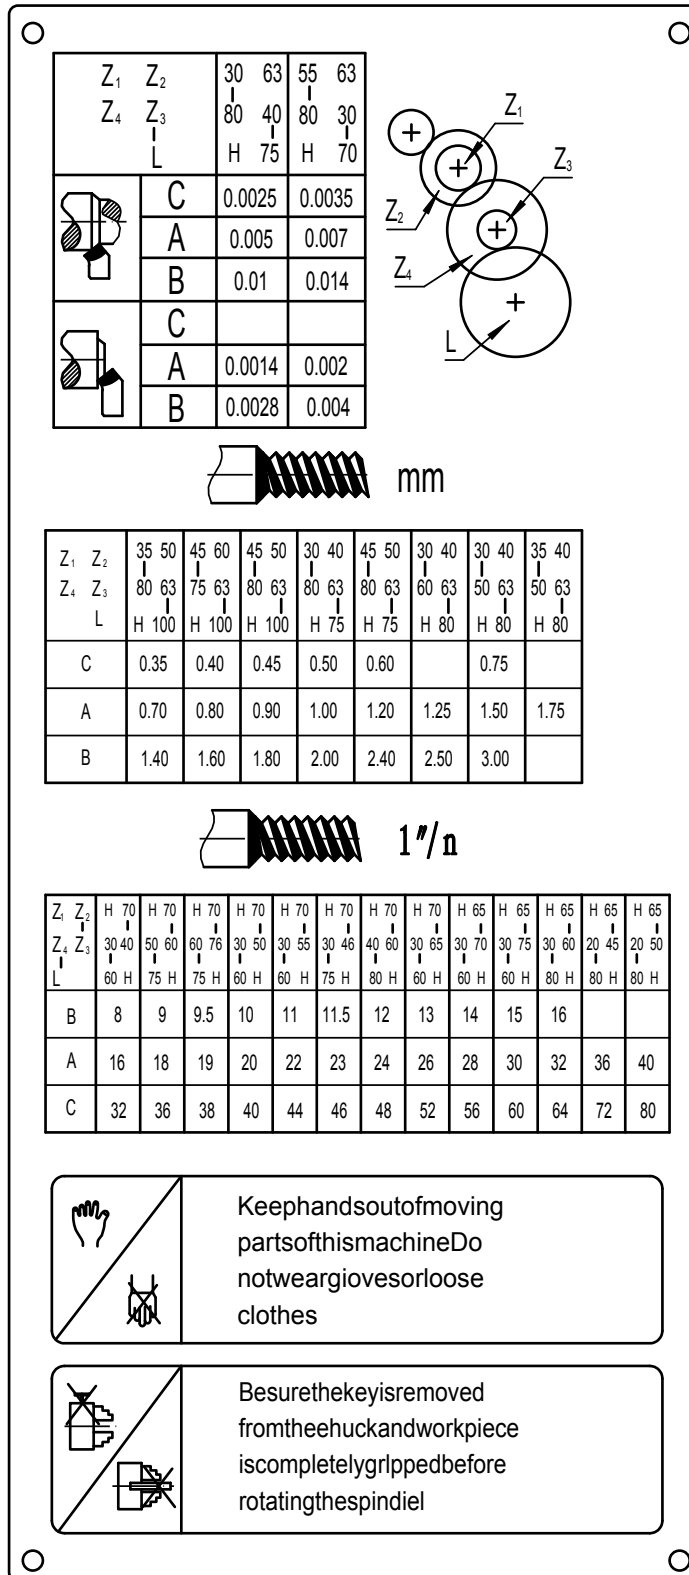

Fig. 24
6. Install the change gears according to the thread and feed table (Fig.24) and secure the gearwheels onto the quadrant again.
Set the machine up to the desired thread pitch (according to the threading chart, Fig.24). Start the machine and engage the half nut. When the tool reaches the work-piece, it will cut the initial threading pass. When the tool reaches the end of the cut, stop the machine by turning the motor off and at the same time back the tool out of the work-piece so that it clears the thread. Do not disengage the half nut lever. Reverse the motor direction to allow the cutting tool to traverse back to the starting point. Repeat these steps until you have obtained the desired results.